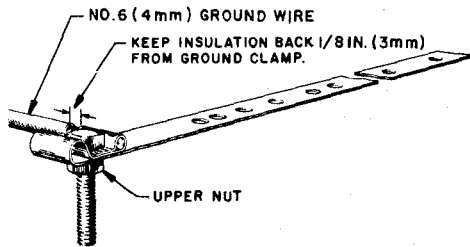

Fig. 61—Attaching No. 6 Ground Wire to L Ground Clamp
- (1) Clean pipe thoroughly.
- (2) Remove approximately 1 inch of insulation from the ground wire and clean conductor.
- (3) Remove the lower nut and the square washer from the bolt of the ground clamp.
- (4) Insert the ground wire conductor into the smaller loop of the ground clamp and secure it by tightening the upper nut on the bolt (Fig. 61).